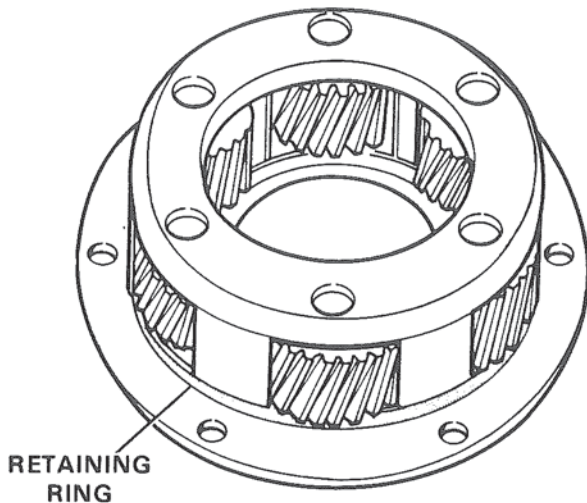
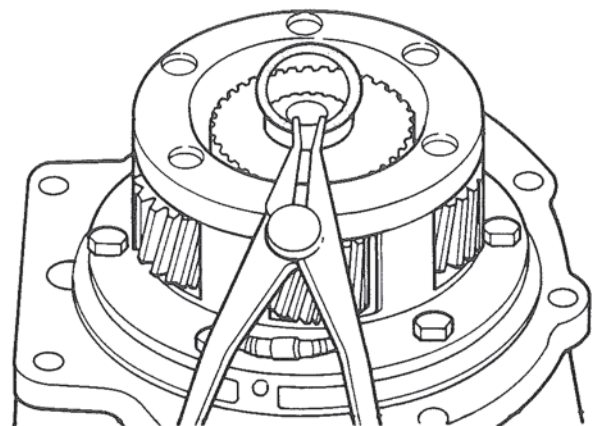

Figure 22. Assembling Pinion Cage.
Figure 24. Installing Snap Ring.
C. Align the bolt holes in the adapter, strainer, and the pinion cage assembly, and install finger tight the six (6) 5/16 - 18 x 3/4 lock bolts and lockwashers. Figure 22.
D. Pull the pinion cage assembly squarely and evenly into contact with the oil strainer by tightening the six (6) lock bolts to specified torque.
5. Install snap ring on output shaft in the groove provided. Figure 24. Tap snap ring after assembly with suitable tool to insure it is fully seated in groove.